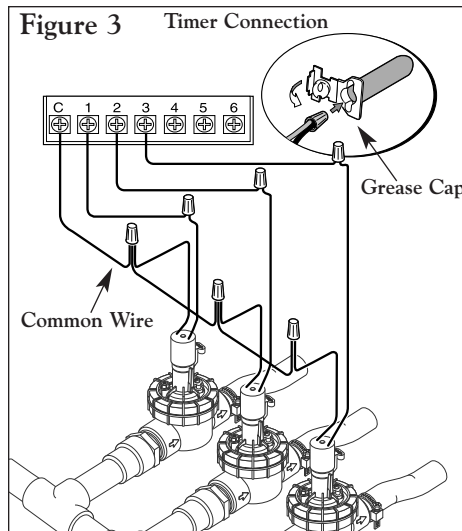

Figure 1
• Model 53799 Installation (Figure 1 & 2)